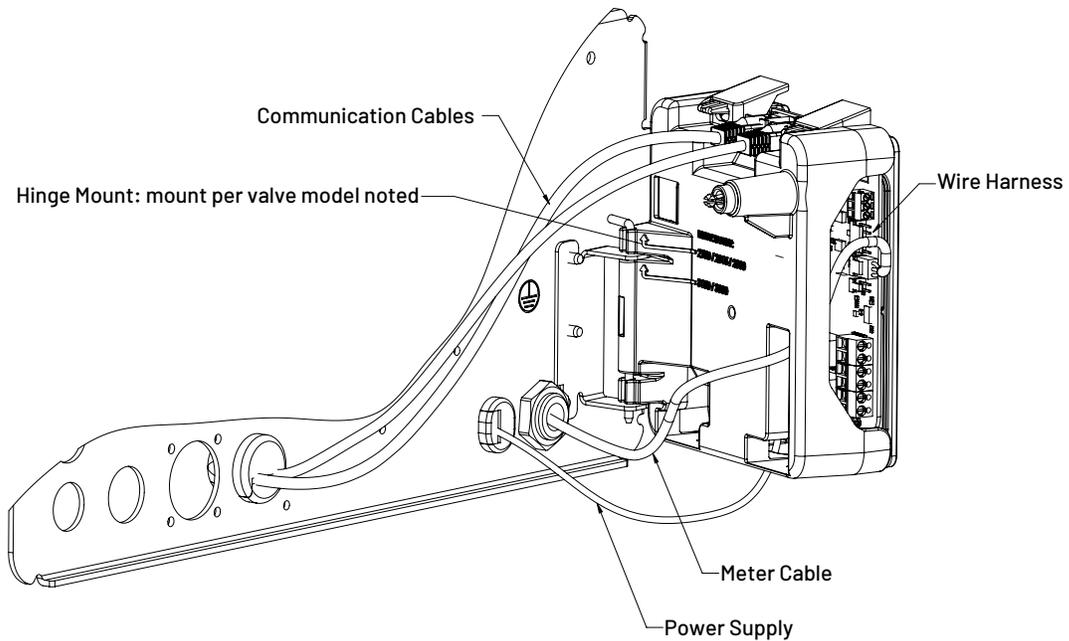
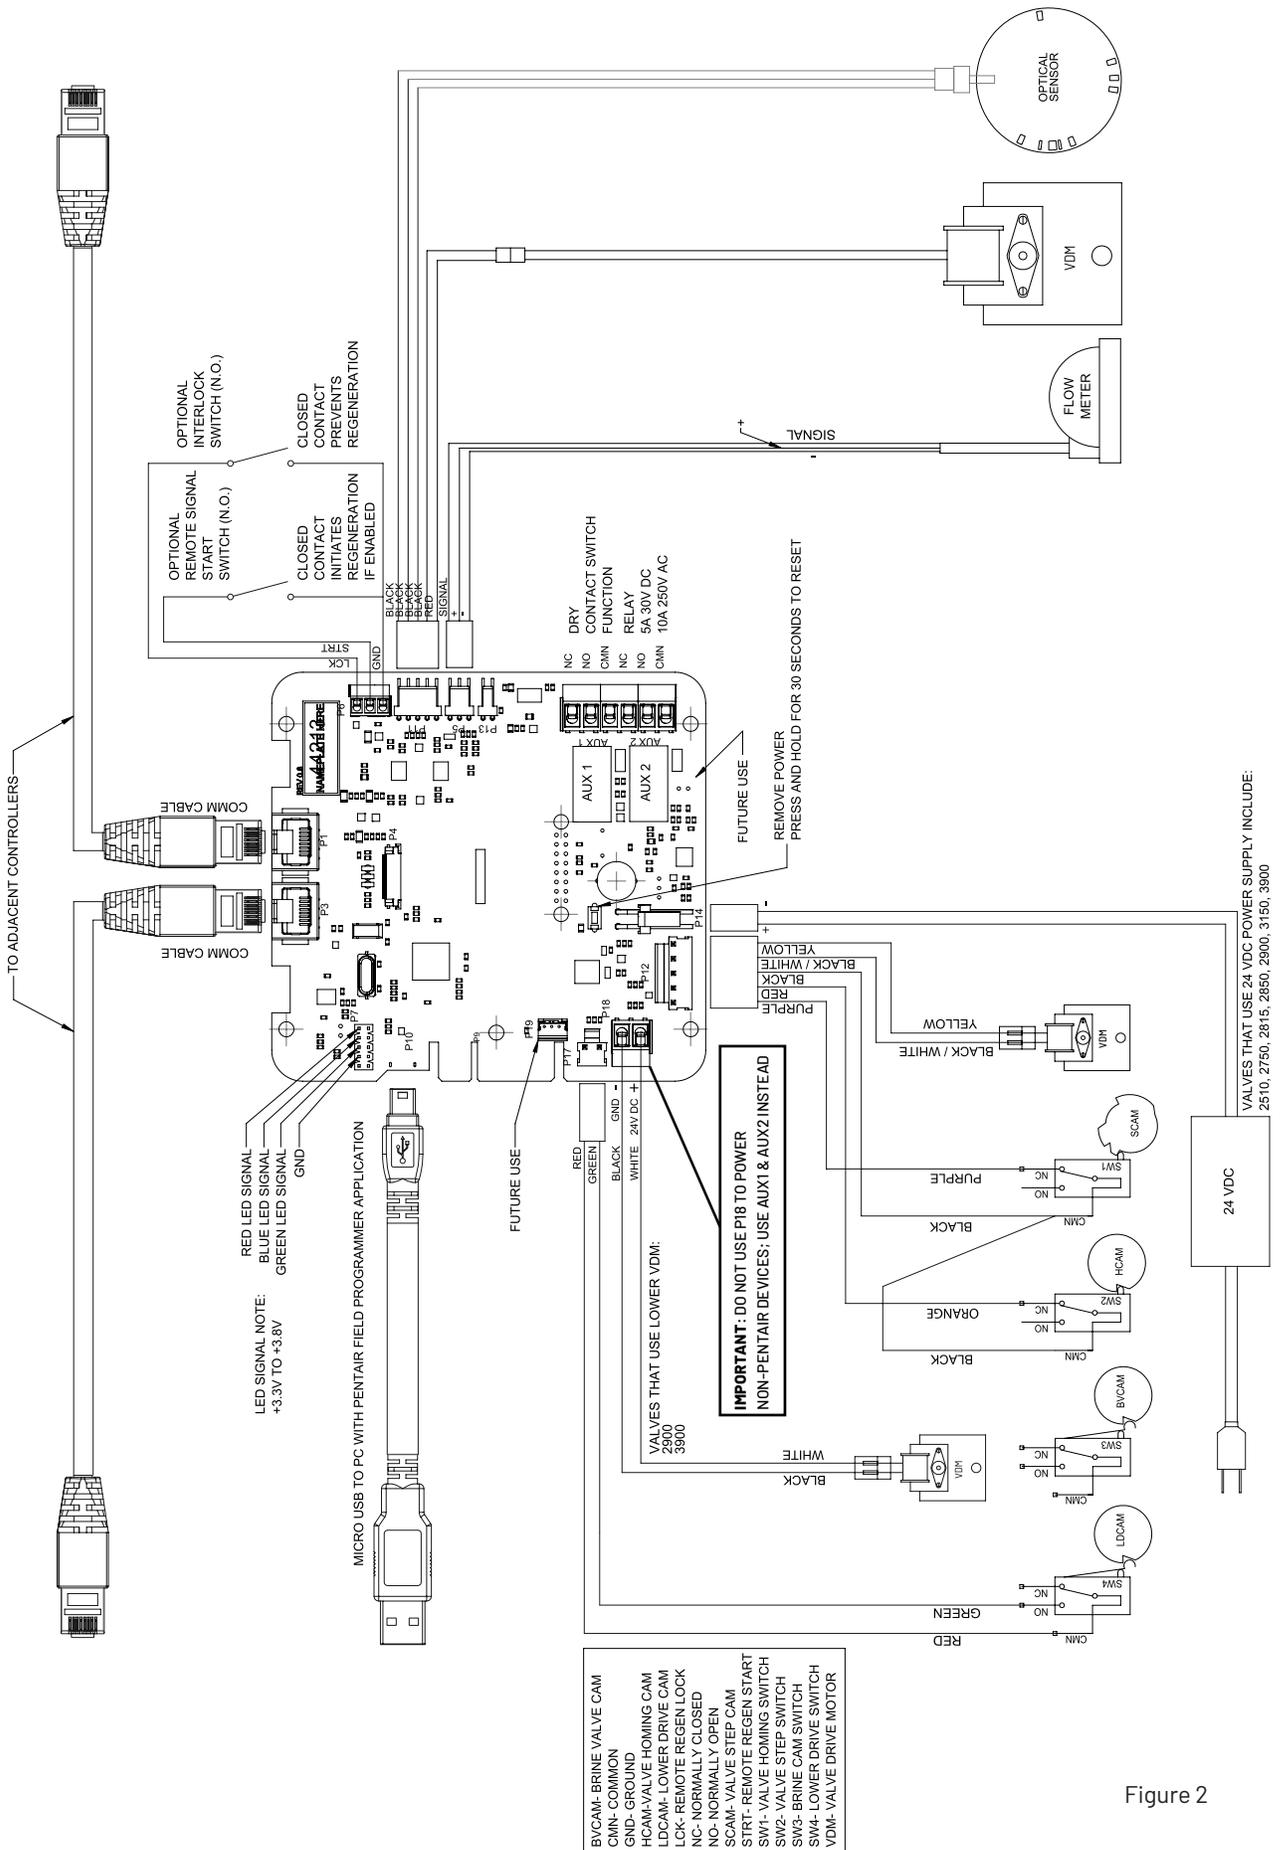

Figure 1
Figure 2
(See Figure 1 and Figure 2 on pgs. 8 and 9.)
3. (See Figure 1 and Figure 2 on pgs. 8 and 9 for the following steps.) Remove screw adjacent to the open rectangular area on the meter cover (dome).